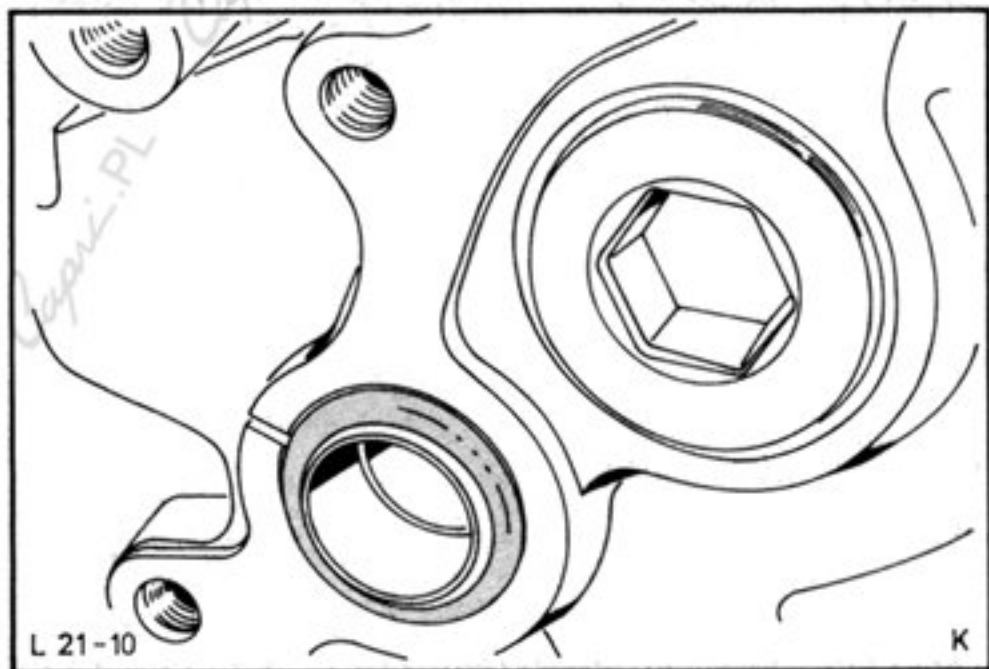

Fig.34. Cylinder block timing cover guide sleeve.
21. Withdraw cylinder block timing cover guide sleeves together with oil seals from cylinder block, Fig.34.